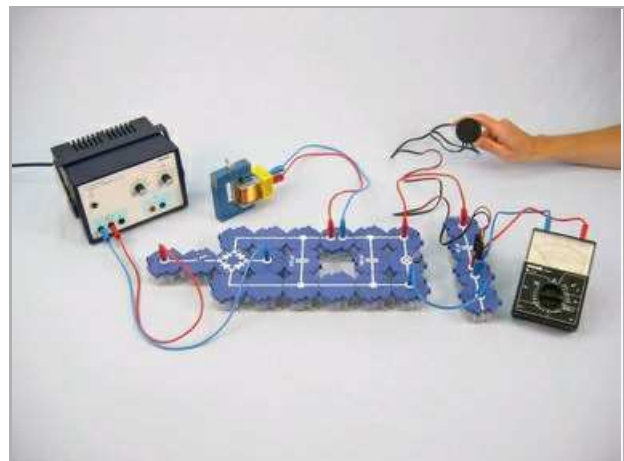

Fig. 6
- Add the capacitor C_2 to the circuit (Fig. 6). Repeat the observations and the measurements.